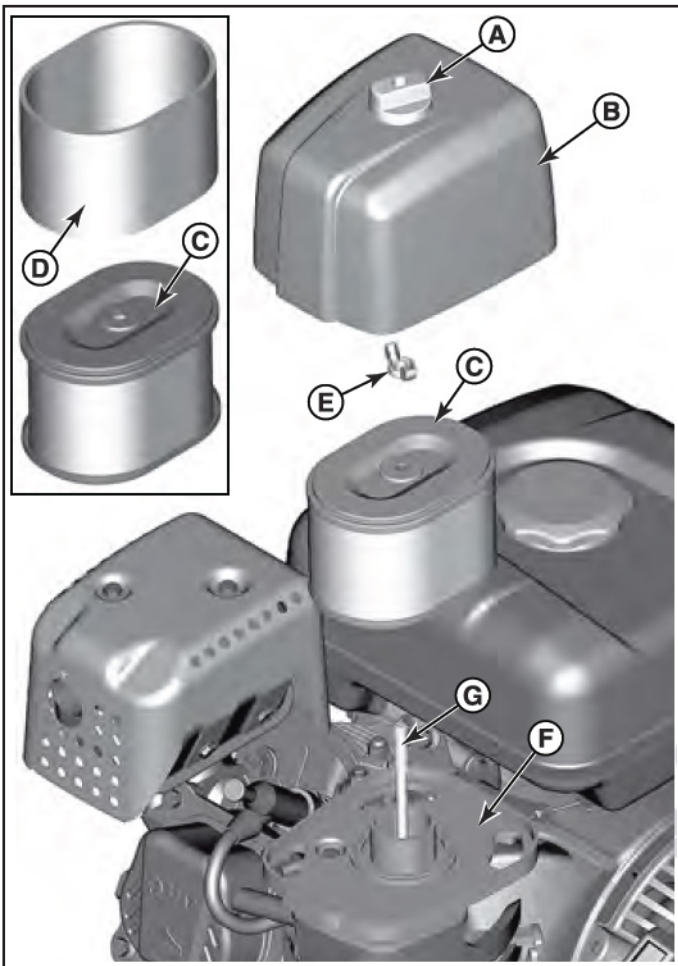

FIGURE 17
- Remove the cover **B** as shown in figure 17.
- To prevent debris from falling into the carburetor, carefully remove the pre-cleaner **D** and filter **C** from the air filter base **F**. See figure 17.
- Gently tap the filter **C** on a hard surface to loosen debris. If the filter is excessively dirty, replace with a new filter. See figure 17.
- Remove the pre-cleaner **D** from the filter **C**. See figure 17.
- Install the filter **C** and pre-cleaner **D** to air filter base **F** and onto stud **G**. Make sure filter is properly assembled to air filter base and secure with fastener **E**. See figure 17.
- Install the cover **B** and secure with fastener **A**. Make sure fastener is tight. See figure 17.